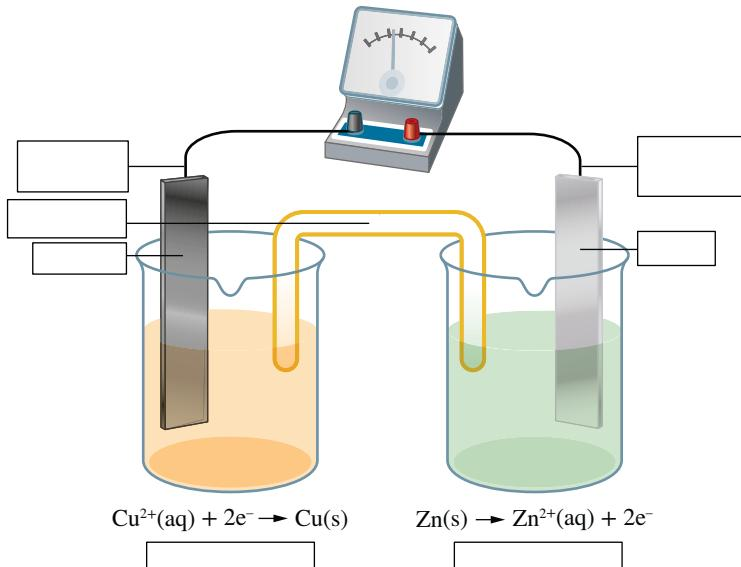

FIGURE 5.1.12 A galvanic cell.
- 5 In the spaces provided, label the galvanic cell in Figure 5.1.12 with: